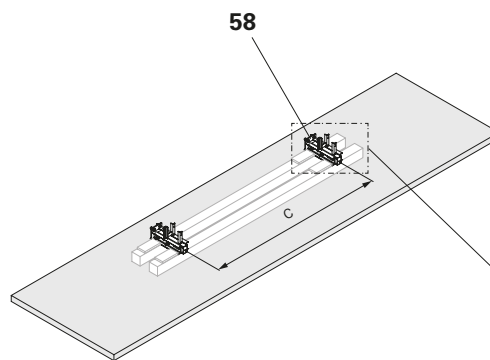

Fig. B9.01
1. Lay out Platform Beams 870-1170 ACS (**58**) while observing the console bracket spacing. (Fig. B9.01)